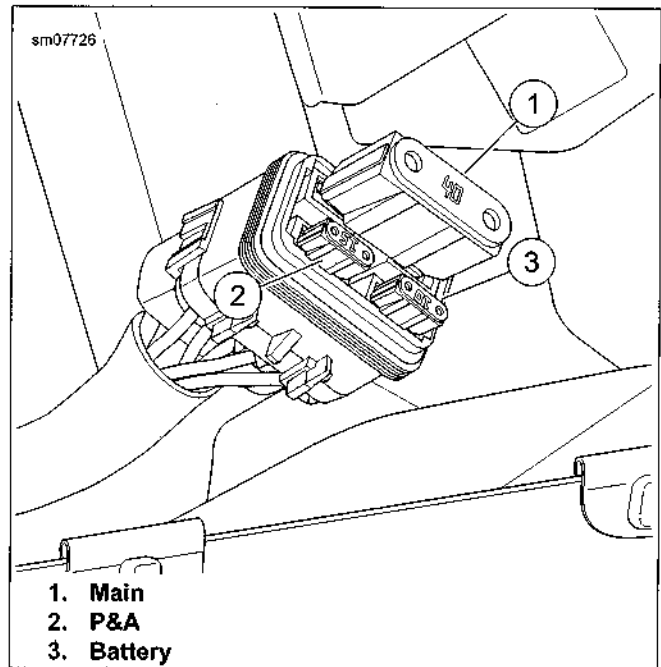

Figure 6-3. Fuses
4. See Figure 6-3. Remove the suspect fuse:
- a. Main (1)
- b. P&A (2)
- c. Battery (3)